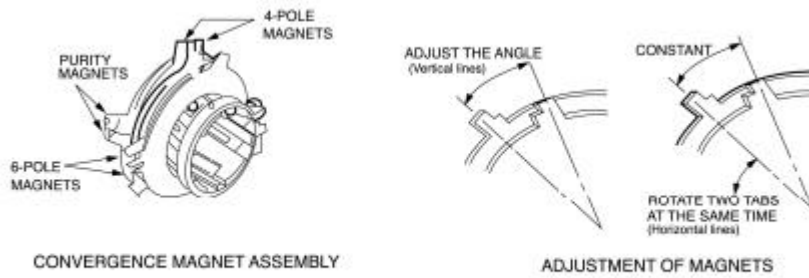

FIG. 3
6. Rotate and spread the tabs of the purity magnet (See figure 3) around the neck of the picture tube until the green belt is in the center of the screen. At the same time, center the raster vertically.
3. Adjust two tabs of the 4-pole Magnets to change the angle between them (See figure 3) and superimpose red and blue vertical lines in the center area of the picture screen.